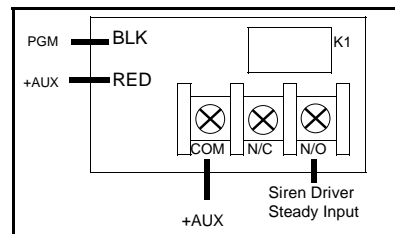

FIGURE 6 KEYFOB/KEYSWITCH CHIRP
(1) Audio Verification - Program to activate the PGM during reporting. Select specific zones for audio verification by programming the required zones in *PGM Output* [08], *PGM Features 2* [24] and *PGM Features 3* [25]. Connect the PGM to the Veriphone™ trigger low input.
(2) Access Output - Activates the PGM output for 5 seconds using the  command.
(3) Follow Keypad Sounder - The following keypad sounds will activate the PGM output: Entry Sounder, Keypad Pulsing Sounder, Keypad Output on Alarm, Chime, Fault Find.
(4) Keyfob/Keyswitch Chirp - Program to chirp the PGM Output (1) one time when the panel is armed or (2) two times when the panel is disarmed. Wire as shown in Figure 6.